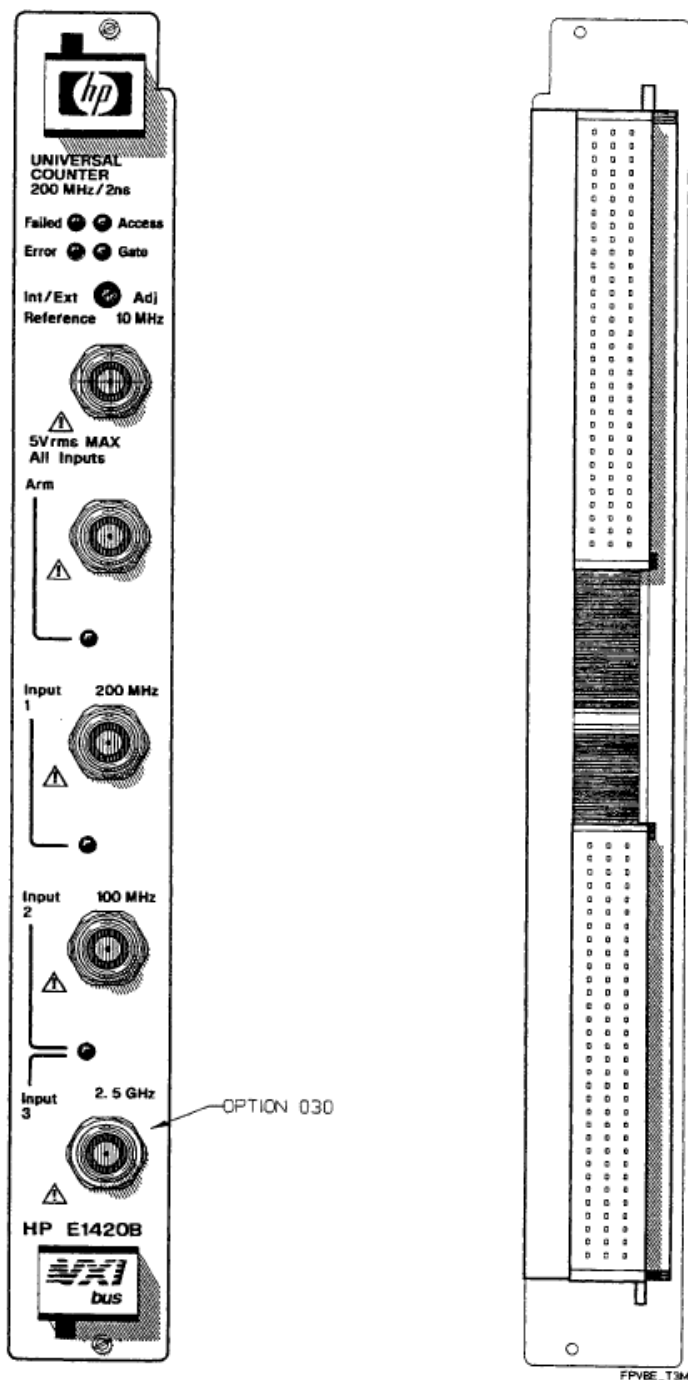

Figure 2-3 Front Panel and VXIbus Edge Connectors
- 1 Locate the bus grant/request jumpers located on the top-right side of the counter module adjacent to the PI connector. See Figure 2-3 for the jumper location and level selection.
- 2 Move the jumpers to the new bus grant/request position. See Figure 2-3 for the individual jumper priority positions. The top right side of the figure shows the correct factory setting (priority level 3). The bottom right side shows how to change the jumpers for priority level 1.